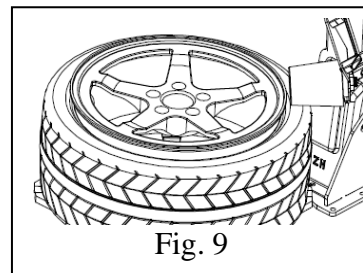

Fig. 9
1) Lock the tyre on the working plate and apart the bead again if necessary(Fig. 9).
- Turn down the roller and make it press the tyre(Fig. 9)